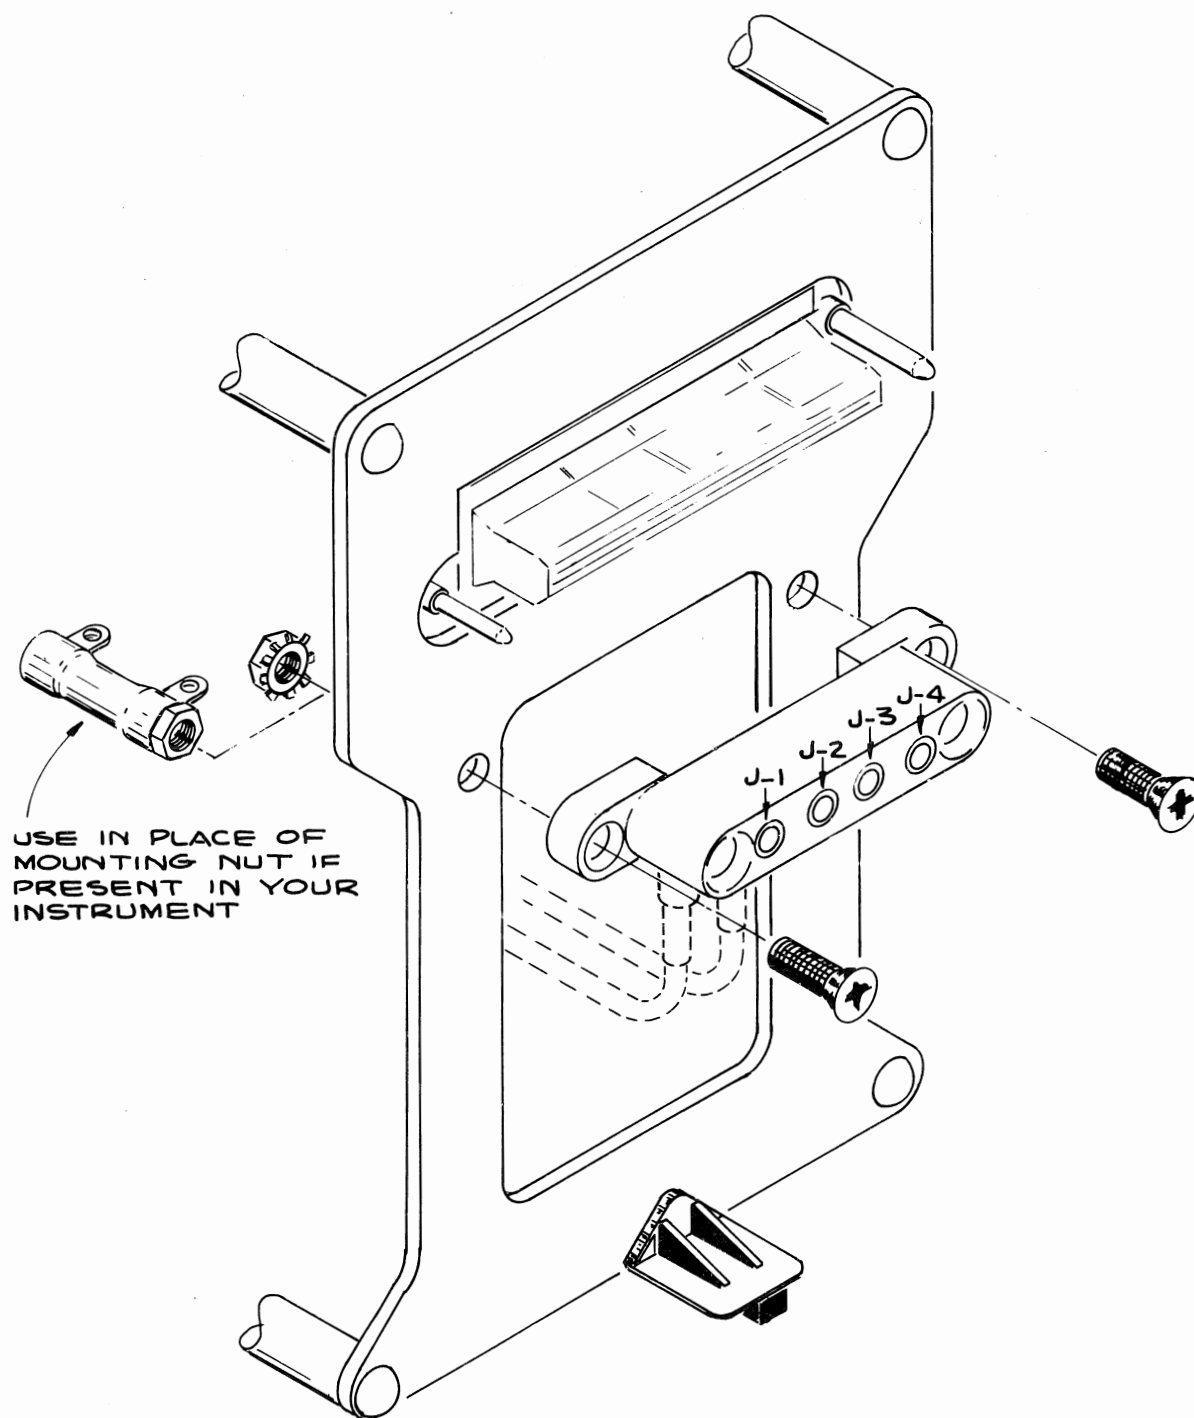

Fig. 5
- ( ) 1. Mount the coax connector holder (from kit) on the rear plate of the plug-in, using the 6-32 flathead screws and Keps nuts from the kit (see Fig. 5).
- ( ) 2. Install the coax-connector assembly (from kit) in position J-1 or J-2 on the holder (see Fig. 5), referring to the table below for the proper position.